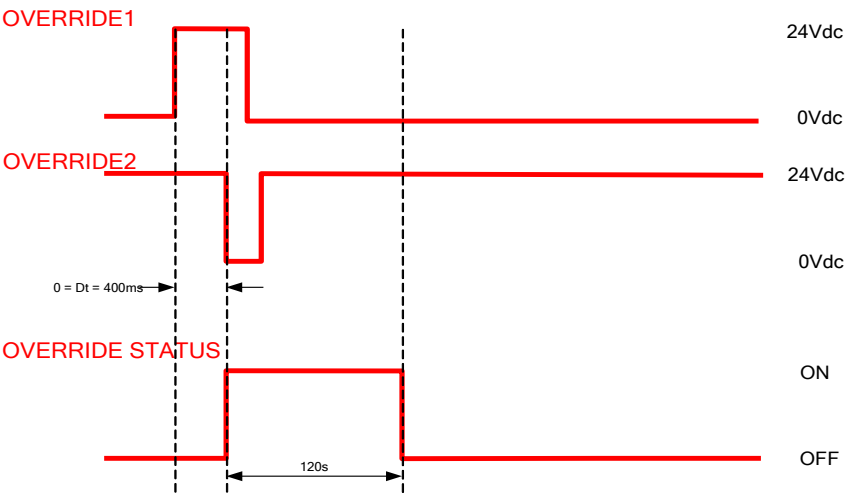

Figure 45
- The time-out expires (Figure 45).